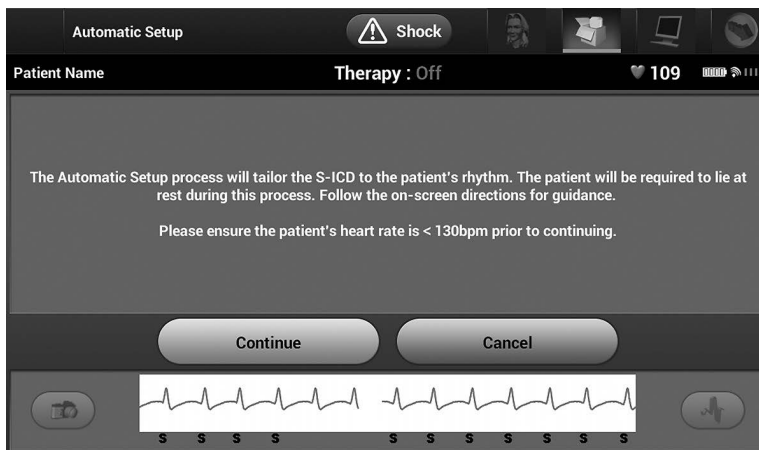

Figure 12: Automatic Setup screen
3. Select the Automatic Setup icon in the Navigation Bar. The Automatic Setup screen appears (Figure 12 on page 33).
4. Select Continue if the patient's heart rate is less than 130 bpm (Figure 12). For rates greater than 130 bpm, select the Cancel button and refer to Manual Setup on page 52.